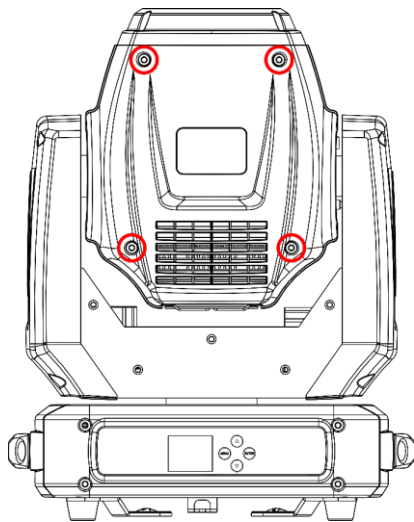
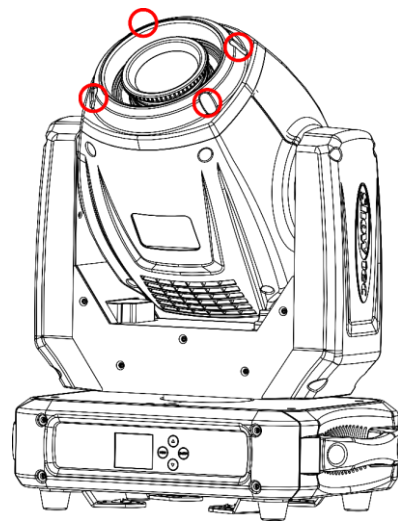

Fig. 07
Fig. 08
- 03) Remove the lamp cover by unscrewing the 4 screws (see fig. 07) and the 4 lens screws (see fig. 08).